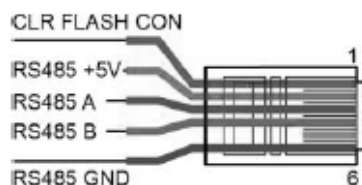

Fig.4. Pin assignment of the RJ11 connector - RS-485 Modbus
3. Connect the lines of the RS-485 interface to the RJ11 connector according to Fig. 4.